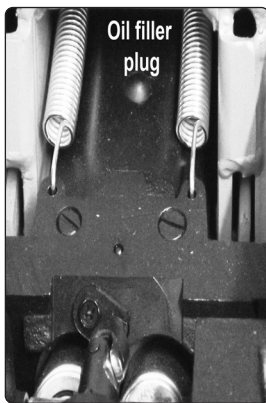

fig.5
- 7.3.2. With the jack in the level position, remove the oil filler plug (fig.5).